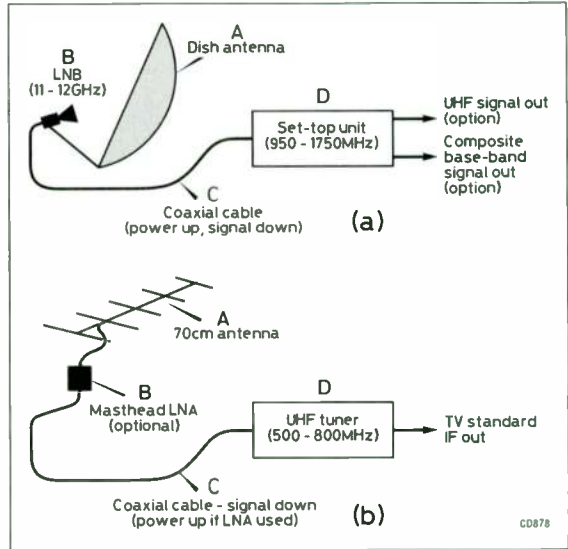

Fig 9.1. (a) Block diagram of a typical DBS receiver set-up. (b) Block diagram of a typical 70cm ATV set-up
Fig 9.1(a) is a block diagram of a typical DBS receiver system. The satellite signals are broadcast in 'Ku' band, using wide-band FM at approximately 11 to 12GHz and are received on a dish antenna (A), typically 50 to 80cm diameter with a gain of 30dB or more. The dish feed may be at the centre of the dish or may be 'offset' and, being a broad-band antenna and feed, is not very frequency conscious. This means that the antenna is suitable for signals in the 10GHz amateur band (10GHz to 10.5GHz) without modification, losing only a few decibels of gain and perhaps not having quite as good a 'beam pattern' in the amateur band as in the DBS band.
cover the 70cm band (430 to 440MHz) although this will not be discussed here, since most ATV activity nowadays is concentrated in the 1.3GHz and 10GHz amateur bands. However, a block diagram of a typical 70cm ATV setup is shown in Fig 9.1(b) and reference [4] gives some ideas on the use of modified UHF tuners and a suitable FM video demodulator circuit, as well as an intercarrier sound demodulator.